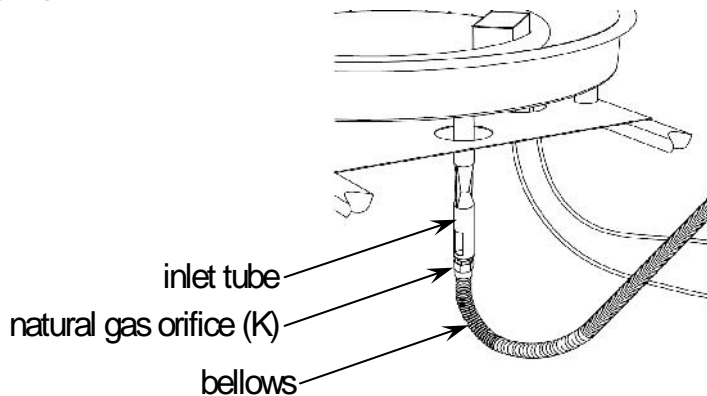

Figure 8
3. Replace the propane orifice with the natural gas orifice (K), screw the natural gas orifice with the bellows tightly, then connect and tighten the natural gas orifice with inlet tube, see Figure 8. Natural gas orifice (K) (dia4.18mm size) is painted with black mark.